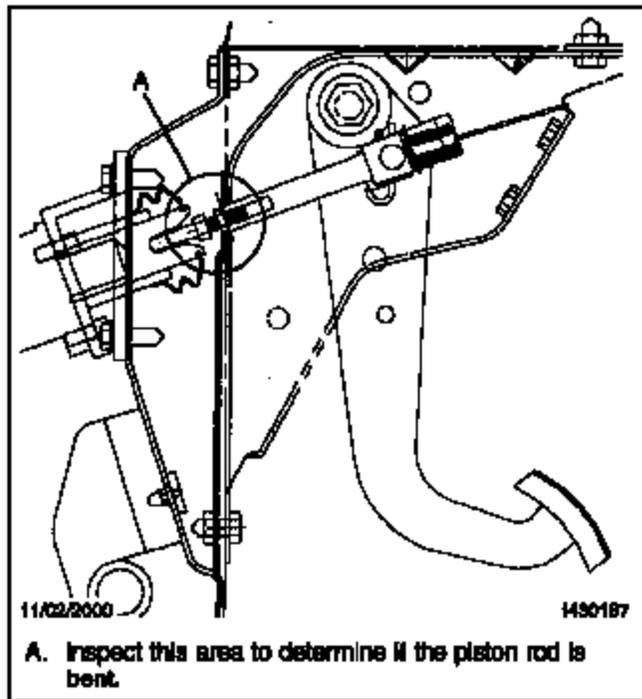

Fig. 1, Piston Rod Installation
1. Locate the brake piston rod and clevis under the dash, behind the brake pedal assembly. See Fig. 1. The threaded end of the piston rod is installed on the clevis and the other end is inserted in the brake valve plunger (the plunger is enclosed in a rubber boot).